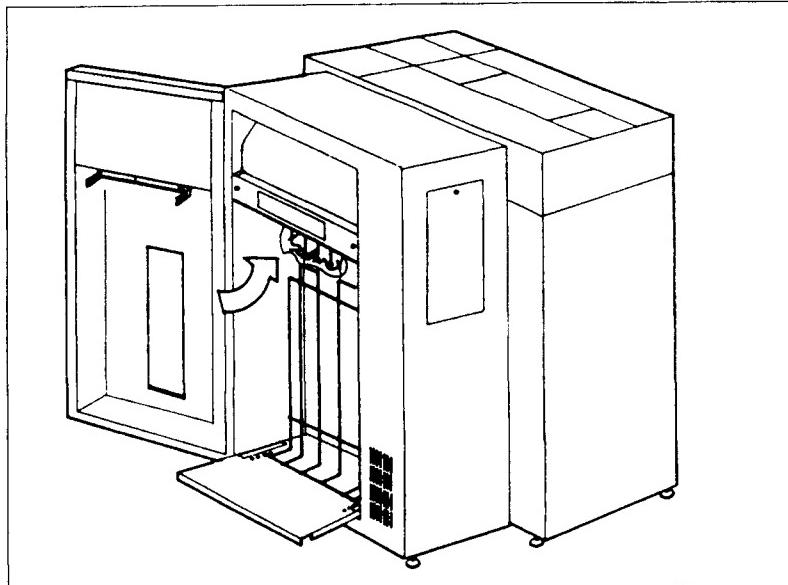

Figure 2-14. Releasing Backstop Chains
- I. Untape the bag holding the chains on the panel under the static brush. Let the chains hang freely in front of the backstop (Figure 2-14). Make sure all tape is removed in this area.